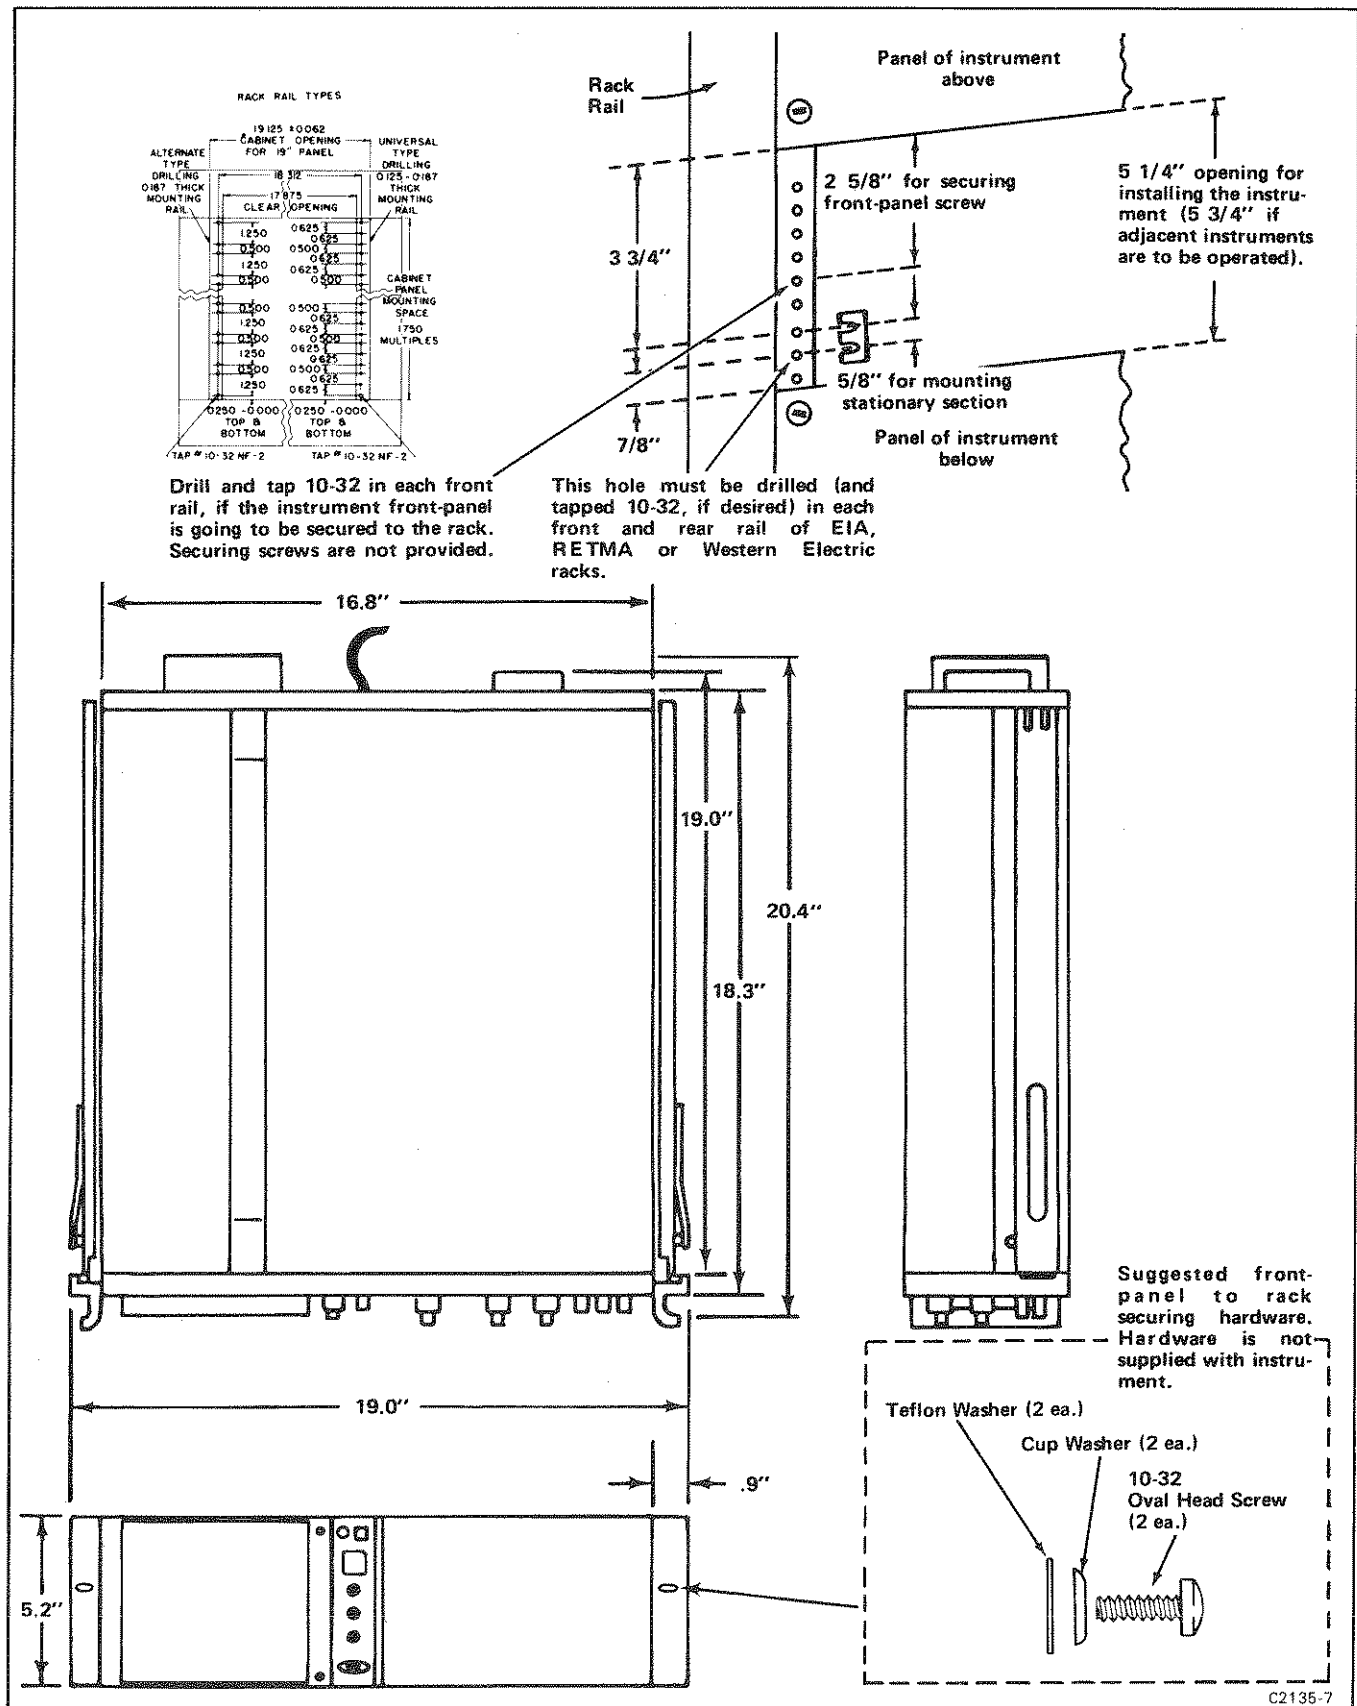

Fig. 4-3. Dimensional diagram.
1. To mount the instrument directly above or below another instrument in a cabinet rack, select the appropriate holes in the front rack rails for the stationary sections, using Fig. 4-3 as a guide.
To secure the instrument front-panel to the rack, the rack must either have universal hole spacing, or a hole must be drilled and tapped for a 10-32 screw, see Fig. 4-3. Using the hardware (not furnished) indicated in Fig. 4-3, secure the instrument to the front rails of the rack.